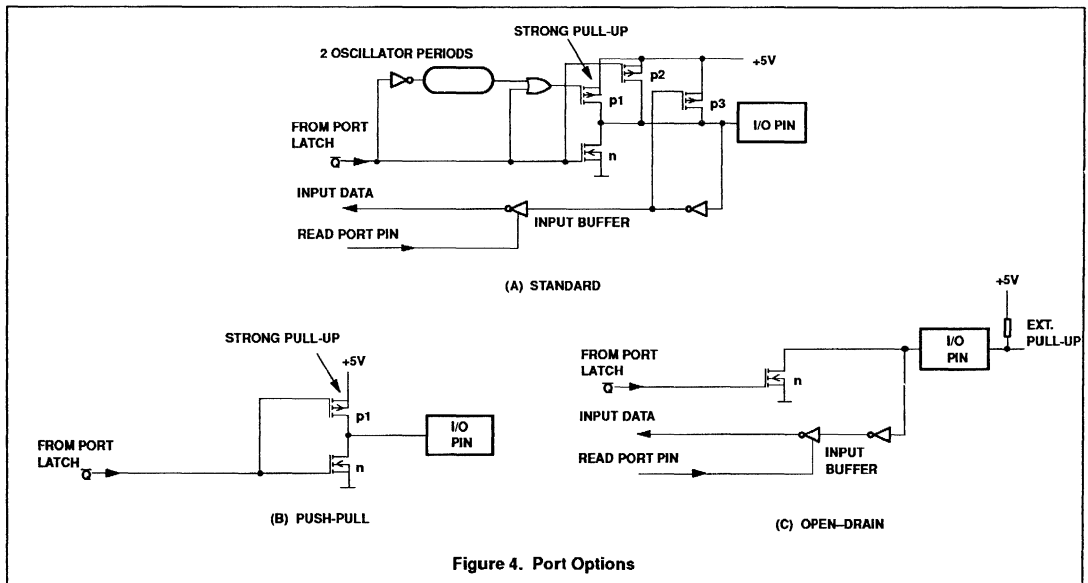

Figure 4. Port Options
have internal pull-ups. Figure 4(a) shows that the strong transistor p1 is turned on for only two oscillator periods after a 0-to-1 transition in the port latch. When on, it turns on p3 (a weak pull-up) through the inverter. This inverter and p3 form a latch which hold the 1. In Port 0 the pull-up p1 is only on when emitting 1s for external memory access. Writing a 1 to a Port 0 bit latch leaves both output transistors switched off so the pin can be used as a high-impedance input.
**Option 1: Standard Port;** quasi-bidirectional I/O with pull-up. The strong booster pull-up p1 is turned on for two oscillator periods after a 0-to-1 transition in the port latch (see Figure 4(a)).
**Option 2: Open drain;** quasi-bidirectional I/O with n-channel open drain output. Use as an output requires the connection of an external pull-up resistor (see Figure 4(c)). This option does not include the internal protection diode against  $V_{DD}$  for port P1.6 and P1.7.
Option 3: **Push-Pull**; output with drive capability in both polarities. Under this option, pins can only be used as outputs (see Figure 4(b)).
Option 2: Open drain; quasi-bidirectional I/O with n-channel open drain output. Use as an output requires the connection of an external pull-up resistor (see Figure 4(c)).
The status of the external pins during Idle and Power-down mode is shown in Table 4. If the Power-down mode is activated whilst accessing external memory, port data held in the Special Function Register P2 is restored to Port 2. If the data is a logic 1, the port pin is held HIGH during the Power-down mode by the strong pull-up transistor p1 (see Figure 4(a)).